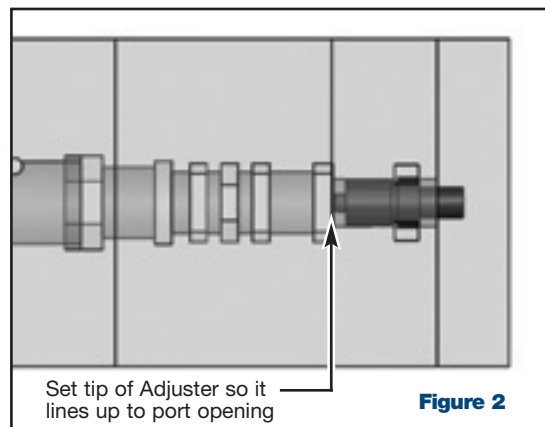

Figure 2
- Prior to Reaming Instruction Step 6 on the following page, set the OEM spring adjuster as shown in Figure 2. The repositioned spring adjuster will establish the correct reaming depth.